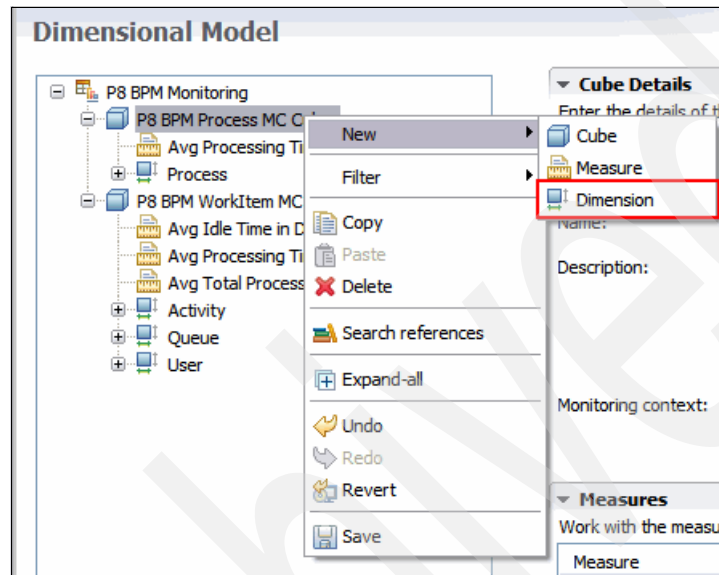

Figure 7-84 Dimensional Model
1. In the Dimensional Model panel (Figure 7-84), right-click **P8 BPM Process MC Cube** in the model tree, and select **New** → **Dimension**.